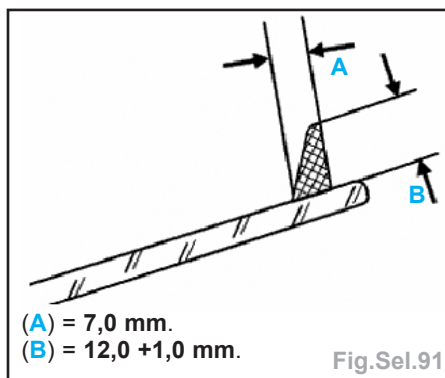

Fig.Sel.91
- (A) = **7,0 mm**,
- (B) = **12,0 +1,0 mm**.
- Forme du cordon de colle (fig.Sel.91) :